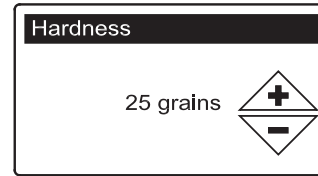

FIG. 29
- 7. HARDNESS** Press the UP (▲) or DOWN (▼) buttons to set the value of your water’s hardness (See Figure 29).